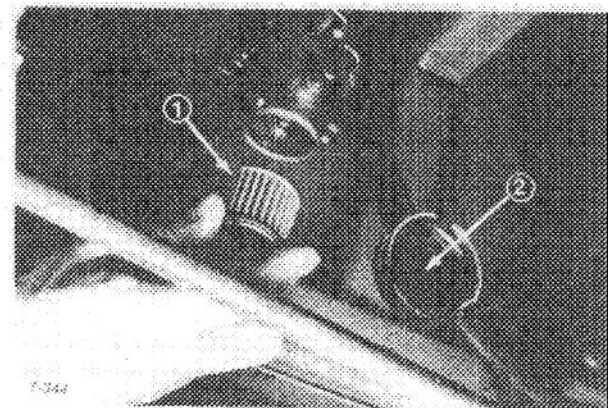

Figure 60
4. Pull filter out of pump body (Fig. 60).